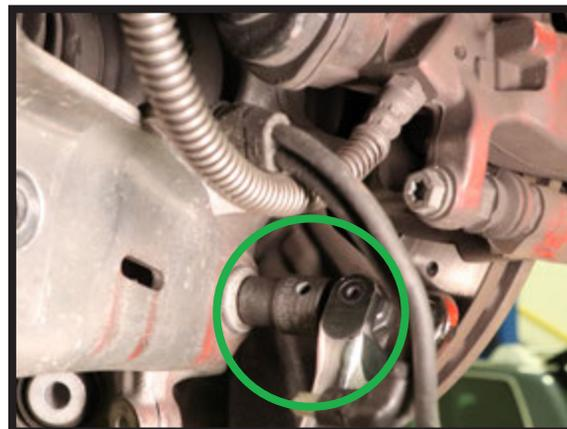

FIGURE 28
5. TIGHTEN CONTROL ARM TO WHEEL CARRIER BOLT. TIGHTEN TO MANUFACTURER'S SPECIFICATIONS. (FIGURE 28)